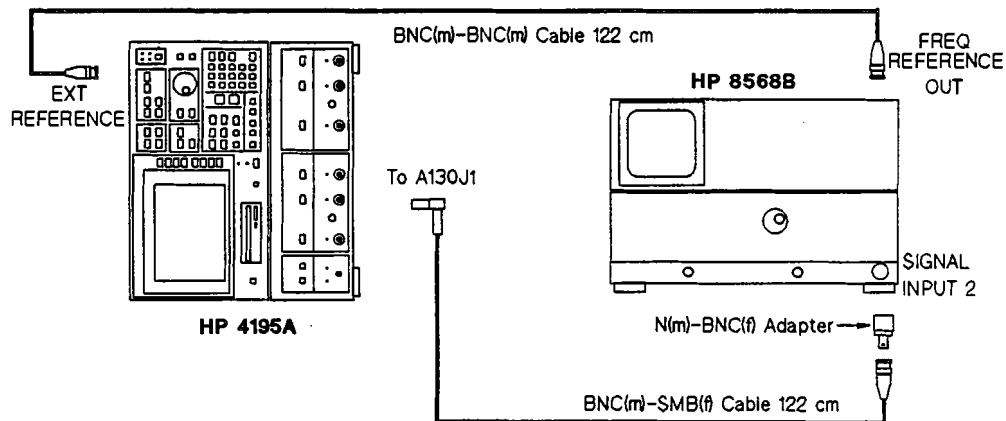
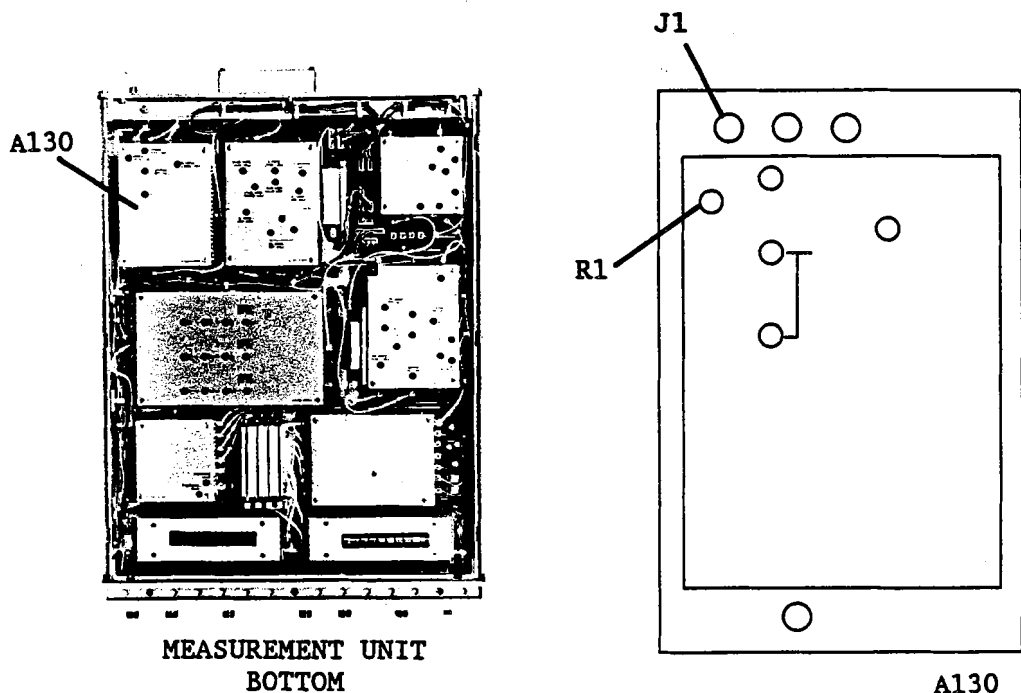
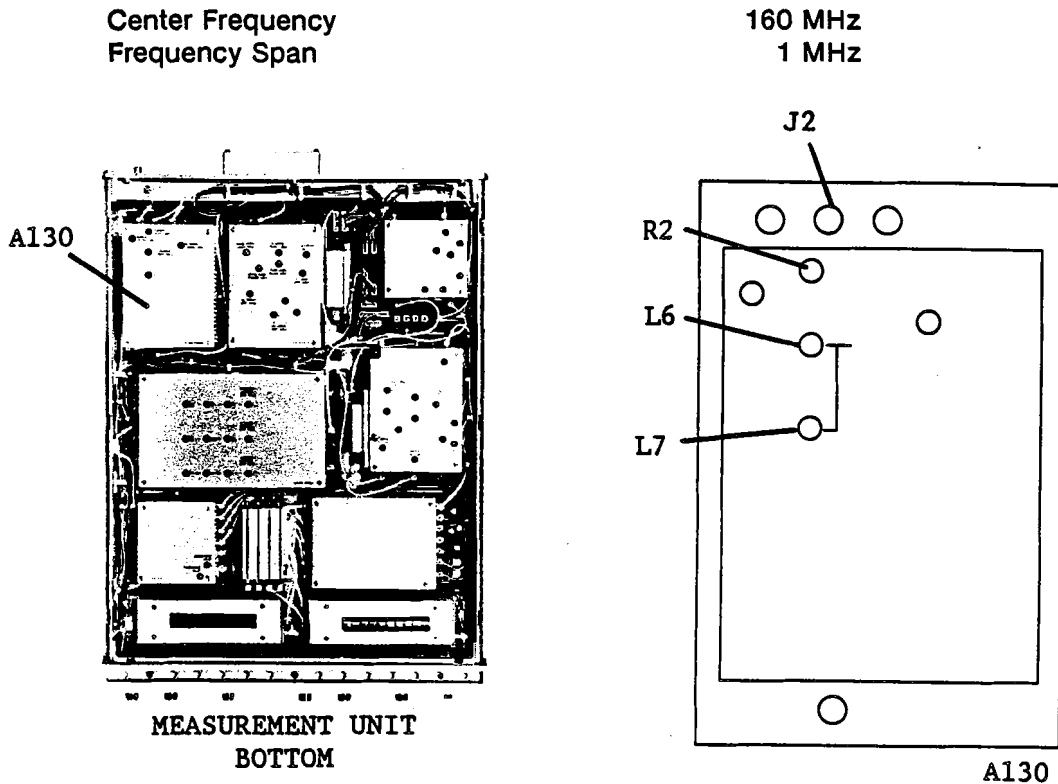

Figure 3-46. Reference Frequency Converter Adjustment Setup
Figure 3-47. 80 MHz Reference Signal Level Adjustment Locations
Figure 3-48. 160 MHz Band Pass Filter Adjustment Locations
1. Connect the equipment as shown in Figure 3-46. See Figure 3-47 for the location of A130J1.
4. Adjust **A130R1 (80 MHz LEVEL ADJ)** until the 80 MHz signal level is $-10 \text{ dBm} \pm 0.5 \text{ dB}$. See Figure 3-47 for the location of A130R1.
1. Connect the equipment as shown in Figure 3-46, paragraph 3-13-1. Connect the Spectrum Analyzer input cable to **A130J2** instead of A130J1. See Figure 3-48 for the location of A130J2.